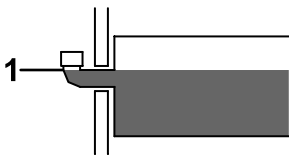

Figure 42
3. Remove the fill cap from the hydraulic reservoir (Figure 42).
4. Slowly fill the reservoir with BOSS high-performance hydraulic fluid to the bottom of the fill elbow (Figure 42).